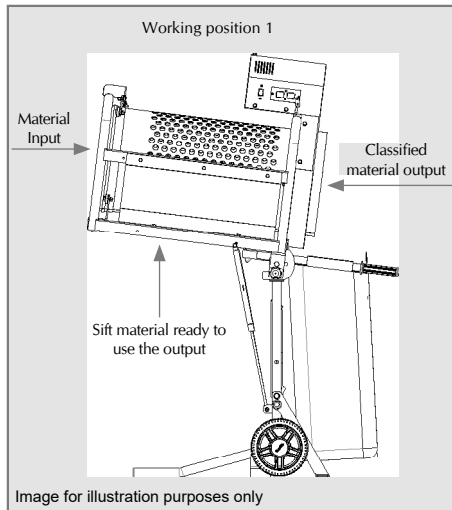

Figure D-1
- ✓ Then, start the engine through the power switch and add the material you want to sift or sort into the drum using a shovel. The material should be inserted on the opposite side of the transport handle, as shown in Figures D-1 and D-2.
- ✓ Figures D-1 and D-2 indicate the working positions that may be chosen according to the need of the desired weight. The more inclined the position of the drum the larger the output of non-usable material, which may be sieved again and larger waste pieces may be crushed in one of our equipment, visit the TRAPP website.